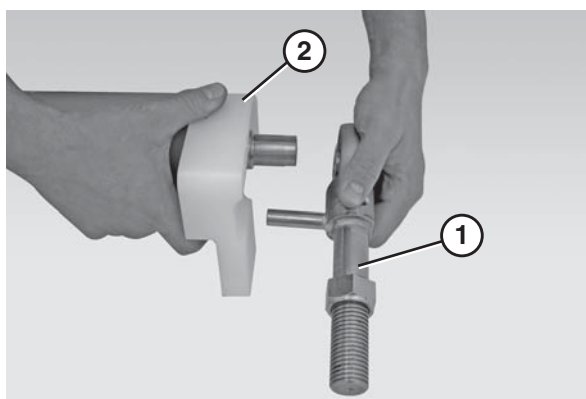

Figure 59
9. Remove the bearing shaft (Figure 59, item 1) and both pinch guards (Figure 59, item 2).